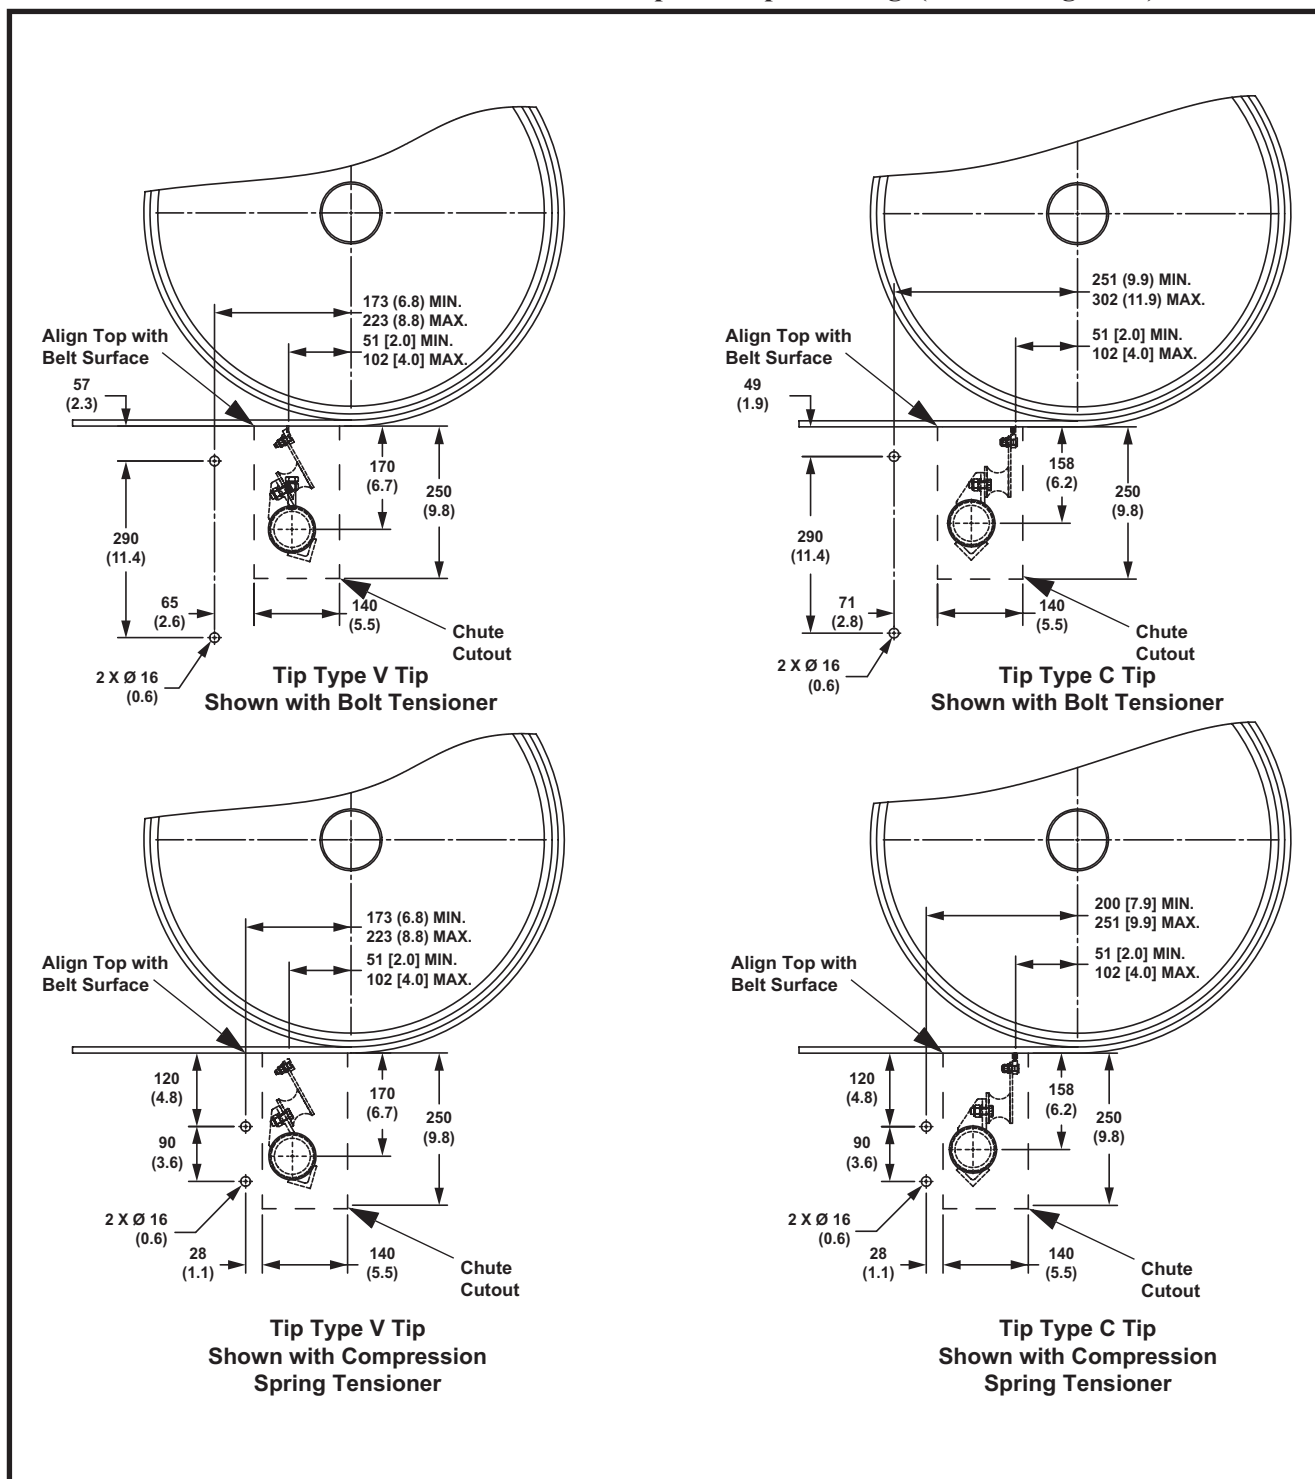

Figure 3. Martin® P2 Secondary Belt Cleaner HD Mainframe & Chute Cutout Location
- Using the previously marked line as the centerline, mark the chute cutout and mount hole locations as shown in Figure 3. Repeat on both sides of chute, ensuring the cutouts are accurately aligned with each other.
The location of the mounting holes differs according to tip type. Make sure that you are using correct dimensions and verify cleaner position and cleaner tip before proceeding. (Refer to Figure 3.)